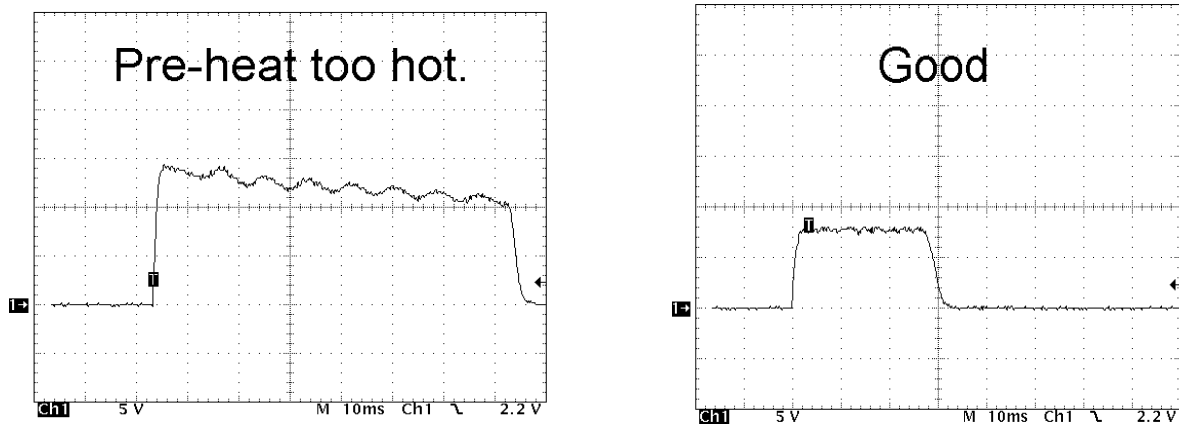

Figure 2: Example of Pre-heat Waveforms
Step 7: If the waveform is not flat, adjust R72 as necessary. See Figure 2, "Example of Pre-heat Waveforms".